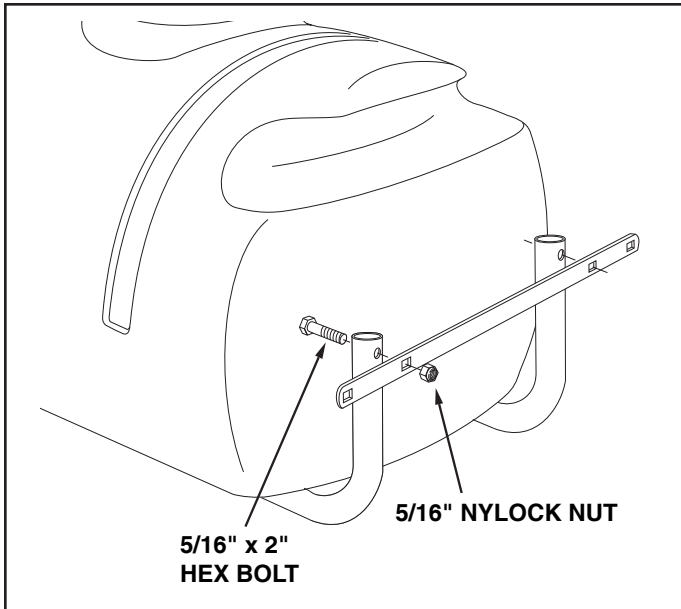

FIGURE 5
10. Assemble the boom mount bracket to the rear of the frame tubes using two 5/16" x 2" hex bolts and 5/16" nylock nuts. See figure 5.